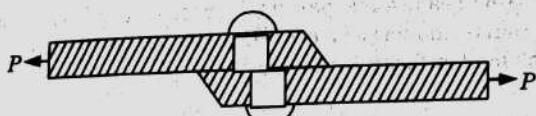

Fig. 1.1.2.
- The stress induced in a body, when subjected to two equal and opposite forces which are acting tangentially across the resisting section as a result of which the body tends to shear off across the section, is known as shear stress (Fig. 1.1.2).